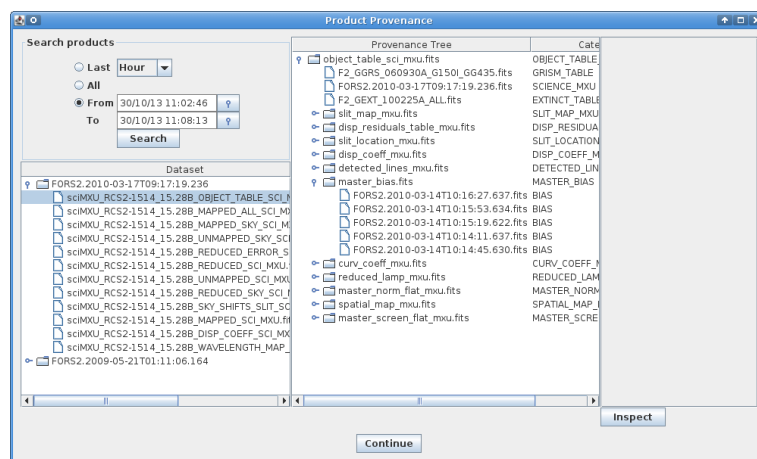

Figure 4.5: The Product Explorer shows all datasets reduced in previous executions together with the full reduction chain for all the pipeline products.
10. When the reduction of the current `DataSet` finishes, a pop-up window called *Product Explorer* will appear showing the datasets which have been so far reduced together with the list of final products. This actor allows the user to inspect the final data products, as well as to search and inspect the input data used to create any of the products of the workflow. Figure 4.5 shows the *Product Explorer* window.